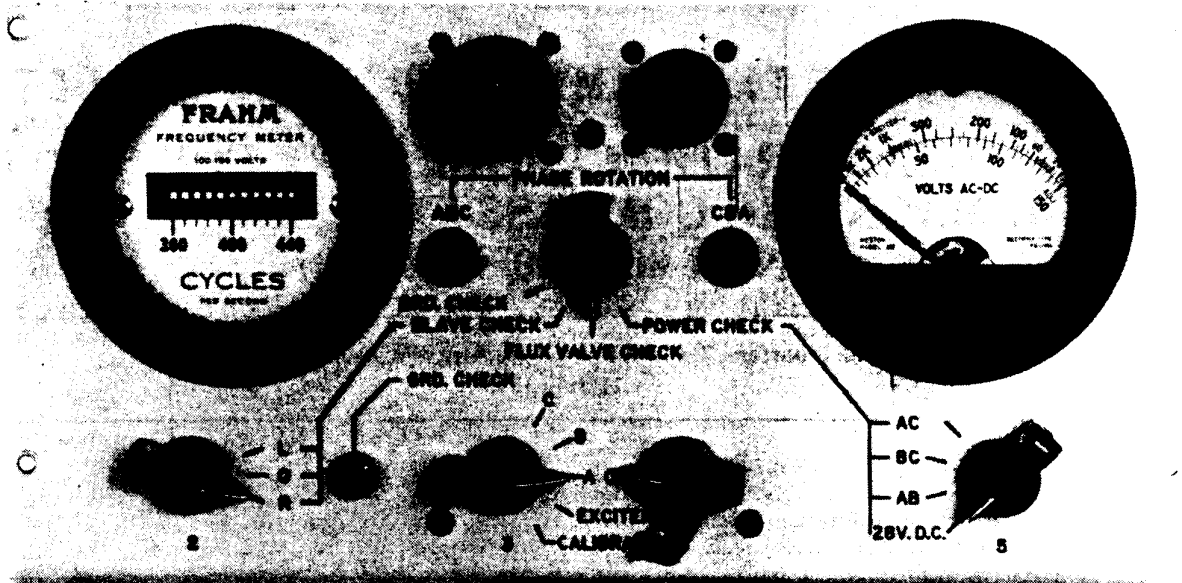

Figure 1. Gyro Magnetic Compass Test Set AN/ASM-61, front panel view.
**1-1. Purpose and Scope.** This bulletin provides information for the periodic calibration of Gyro Magnetic Compass Test Set, AN/ASM-61 (fig. 1). It is to be used by personnel trained and qualified in the use of calibration equipment.